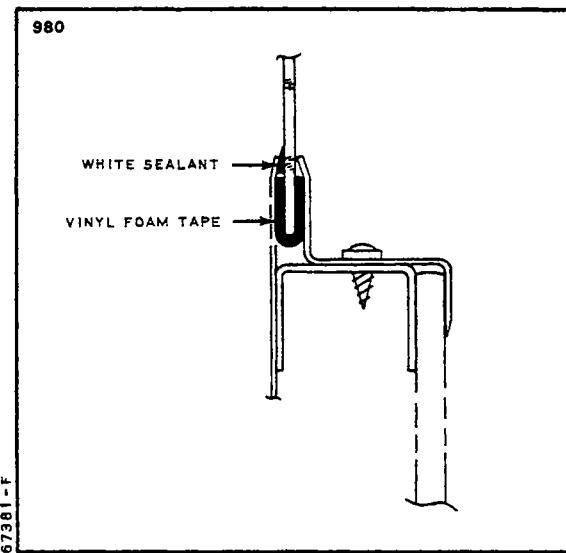

Figure 4-6. Side Window Installation,
- a. Single Pane. (Refer to Figure 4-6.)